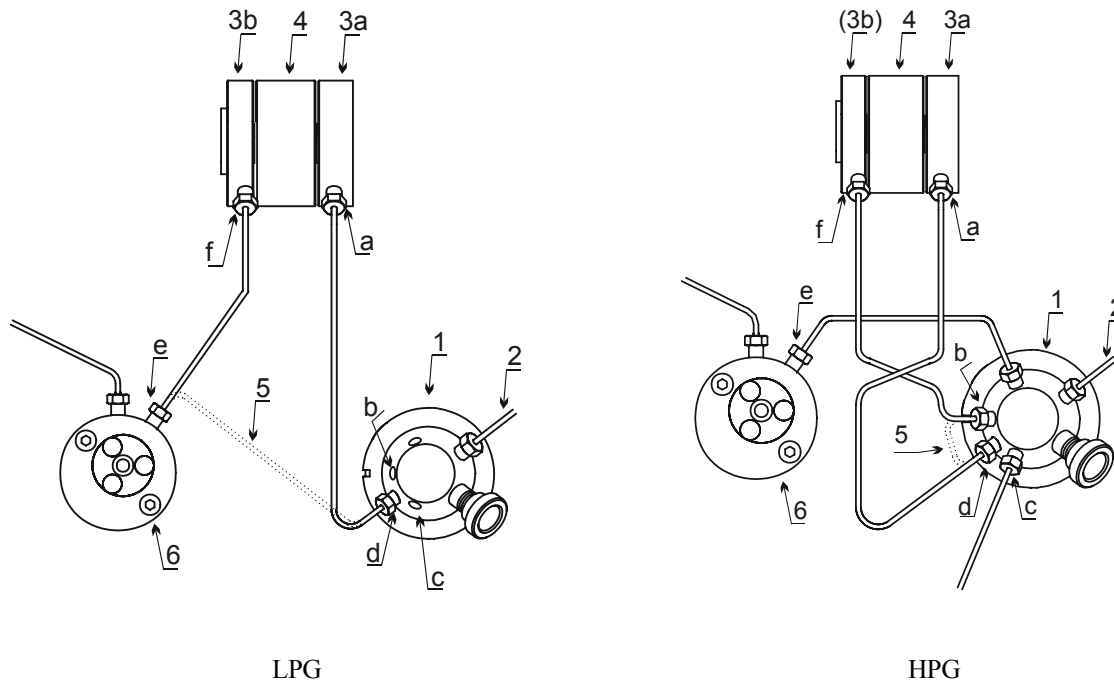
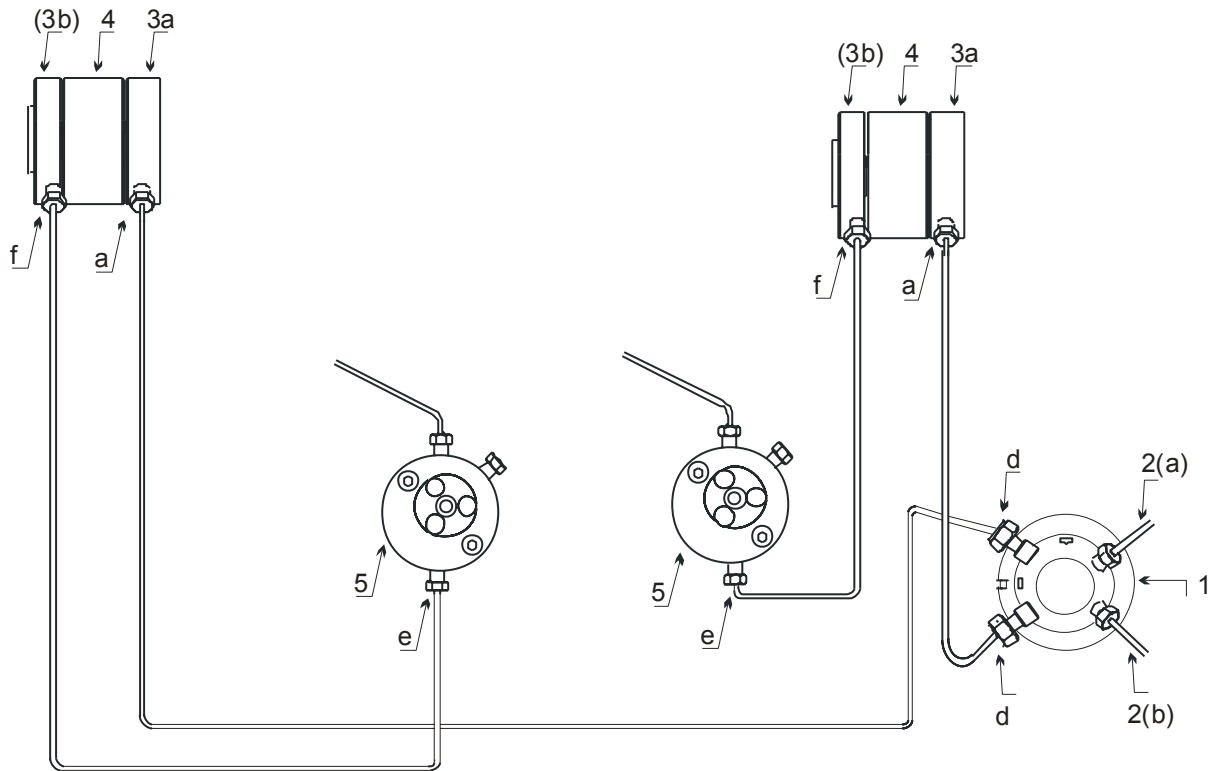

Fig. 67: Connections between pump head, mixing chamber, and purge block
Fig. 68: Connections between pump head, mixing chamber, and purge block (P680A DGP-6)
- For P680A LPG-4 pumps: Remove the dummy plug on the purge block tee (→ Fig. 67, plug **c**).
- On the mixing chamber outlet, **loosen** the fitting screw of the capillary that connects the mixing chamber outlet to the purge block/outlet block inlet (→ Fig. 67 or Fig. 68, screw **a**). Do not remove the capillary on the mixing chamber outlet completely!
- On the purge block/outlet block inlet, **loosen** the fitting screw of the capillary that connects the mixing chamber outlet to the purge block/outlet block inlet (→ Fig. 67 or Fig. 68, screw **d**). Do not remove the capillary on the purge block/outlet block inlet completely!
- Tighten the capillary fitting screws on the mixing chamber outlet and on the purge block/outlet block inlet (→ Fig. 67 or Fig. 68, screws **a** and **d**).
- For P680A LPG-4 pumps: Reinstall the dummy plug on the purge block tee (→ Fig. 67, dummy plug **c**).
- Remove the dummy plug on the purge block tee (→ Fig. 67, plug **c**).
- Undo the capillary fitting screws on the mixing chamber outlet and on the purge block inlet (→ Fig. 67, screws **a** and **d**) and remove the capillary.
- Undo the capillary fitting screws on the mixing chamber inlet and on the pump head outlet (→ Fig. 67, screws **f** and **e**) and remove the capillary.
- Install the capillary from the LPG MicroFlow kit between the pump head outlet and the purge block inlet and tighten the fitting screws (→ Fig. 67, screws **e** and **d**)
- Reinstall the dummy plug on the purge block tee (→ Fig. 67, plug **c**).
- Remove the dummy plug on the purge block tee (→ Fig. 67, dummy plug **c**).
- Undo the capillary fitting screws on the purge block inlet and the pump head outlet (→ Fig. 67, screws **d** and **e**).
- Reinstall the original capillary between the mixing chamber outlet and the purge block inlet (that was removed during the installation of the kit) and tighten both fitting screws (→ Fig. 67, screws **a** and **d**).
- Install the capillary between the pump head outlet and the mixing chamber inlet that was removed during the installation of the kit and tighten both fitting screws (→ Fig. 67, screws **e** and **f**).
- Reinstall the dummy plug on the purge block tee (→ Fig. 67, dummy plug **c**).
- Undo the capillary fitting screws on the mixing chamber inlet and on the purge block tee (→ Fig. 67, screws **f** and **b**) and remove the capillary.
- Install the capillary from the MicroFlow kit between the purge block tee and the purge block inlet and tighten both fitting screws (→ Fig. 67, screws **b** and **d**) in turn.